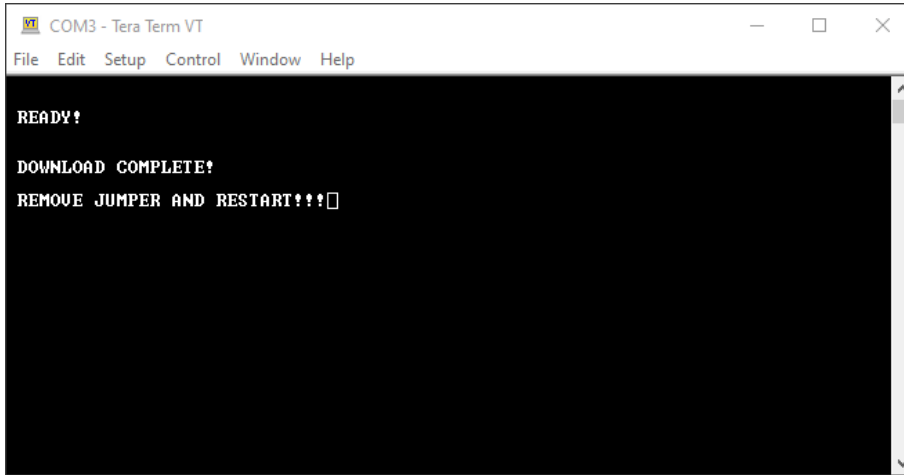

Figure 14. Console Screen – Software image download has finished
- 6. When the software image download has finished D3 remains illuminated and **DOWNLOAD COMPLETE!** message is printed in the console screen (Figure 14). You must unplug the USB cable and remove the jumper wire. Next time the MCU powers up, it copies the new software image, and boots from it. This completes the software image update process. If the red LED D4 is illuminated, the bootloader becomes unresponsive or the image transfer sticks, there is something wrong with the image update process. Unplug the USB cable and restart the process from Step 1.